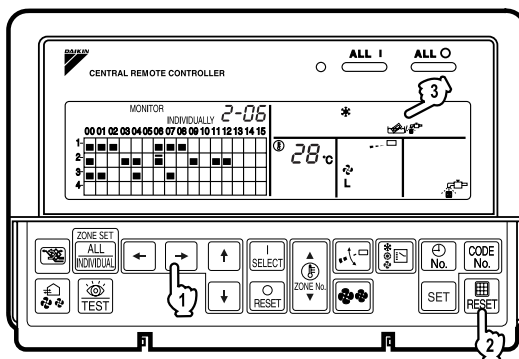

Fig. 16
■ Display of time to clean (Fig. 16)